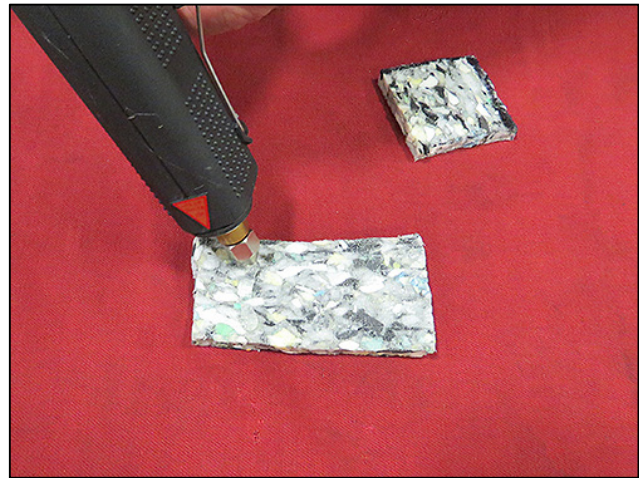
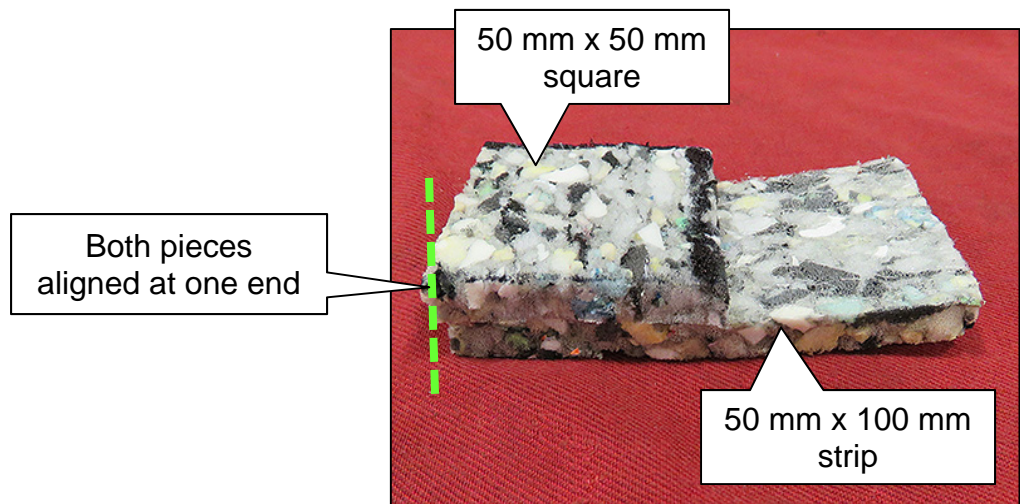

Figure 24
Figure 25
24. Apply a small amount of hot glue and then attach the 50 mm x 50 mm square to the 50 mm x 100 mm strip as shown in Figure 25.
- See Figure 24 and Figure 25.